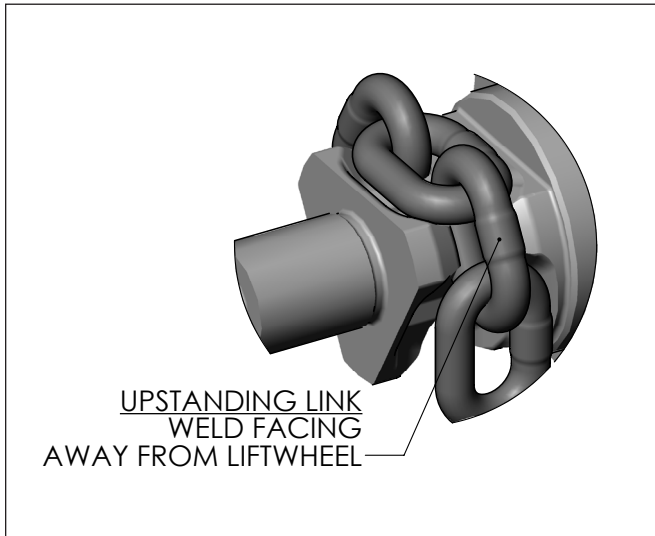

Figure 18. - Chain Assembly - Hook End, 1 1/2 Ton
- a. Start upstanding link (see Fig. 18) of dead end (end opposite end ring) onto liftwheel (at side opposite that marked on casting "Lower Hook Side") with weld side of upstanding links facing away from liftwheel. Continue to feed chain onto liftwheel while turning Lever Cap clockwise until end of chain can be reached. Pull through about three feet of chain. Do not force chain over liftwheel - if turning of Lever Cap becomes difficult, back off and start over - otherwise, the chain could become jammed between liftwheel and frame.